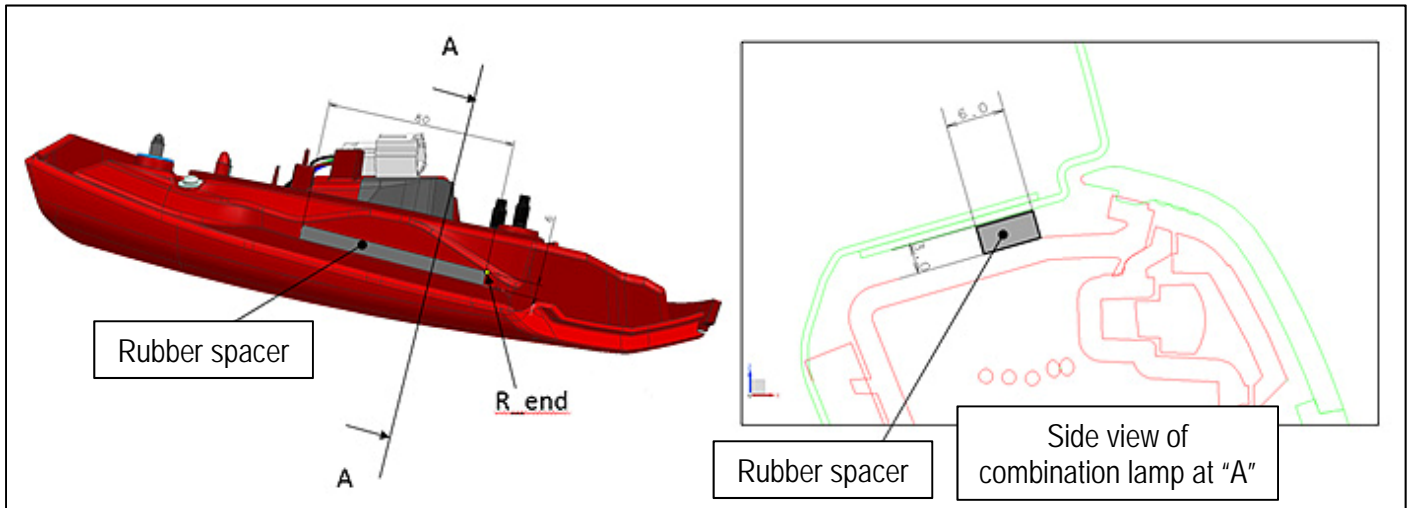

Figure 2
3. Apply one (1) rubber spacer onto the top of each combination lamp in the area shown in Figure 2.